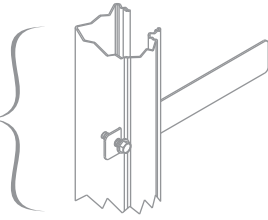

FIGURE 9
- For doors with windlocks, secure each head-stop to guide with 1/4-20 serrated flange nut. install carriage bolt from inside of guide. **See figure 9.**